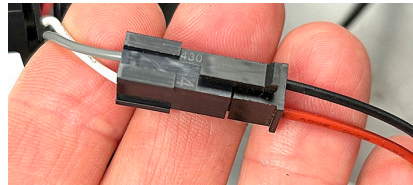

Figure 26
26. Connect the 8076535-coupler two (2) wire 4-pin power cable connector (gray & white) to the two (2) wire (black & red) 4-pin power harness (see Figure 26).